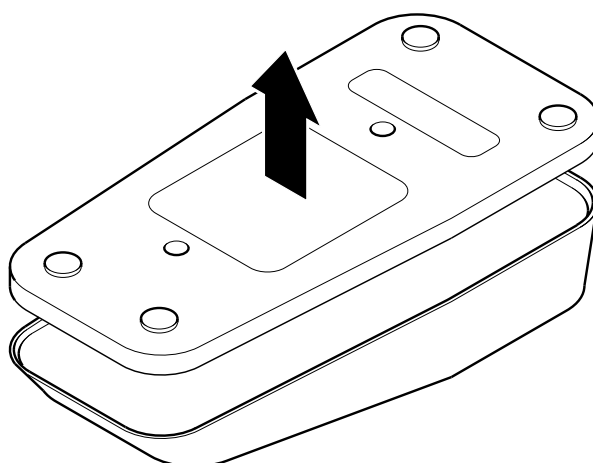

Figure 14: Case removal
- Figure 14 Remove the case from the cover assembly.